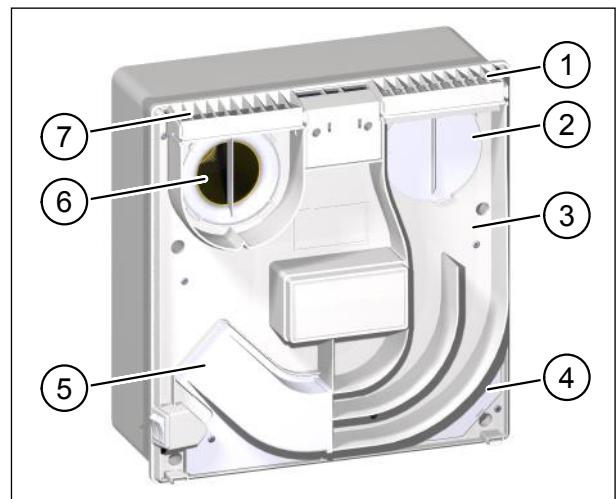

Fig. 7: Ventilation unit – cover removed
- The ventilation unit must be installed so that the openings for extract air and supply air (pos. 1 and pos. 7 in Fig. 7 on page 15) point up.